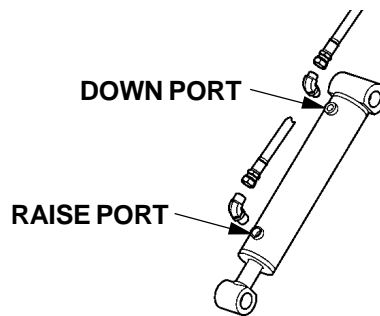

FIG. 44-3
3. Check the Hydraulic Cylinder. With the Platform on the ground, remove the hydraulic line from the Down Port of the Cylinder (**FIG. 44-3**). Raise the Platform even with the bed. Allow pump motor to run two seconds more while you watch for hydraulic fluid at the Down Port. A few drops of hydraulic fluid escaping the Down Port is normal; however, if it streams from the Down Port, Piston Seals are worn. Replace Seals.